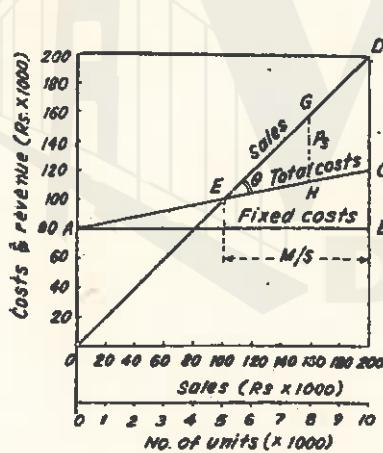

Fig. 27.5. Breakeven Chart.
Breakeven chart has been drawn in Fig. 27.5.
- (iii) The profit earned at a turnover of Rs. 160,000 is marked by P , in Fig. 27.5 and it is equal to Rs. 48,000.
- (iv) The margin of safety at 10,000 units has been marked by M/S in Fig. 27.5 and it is
(v) The angle of incidence θ has been marked in Fig. 27.5 and is 34.3° .